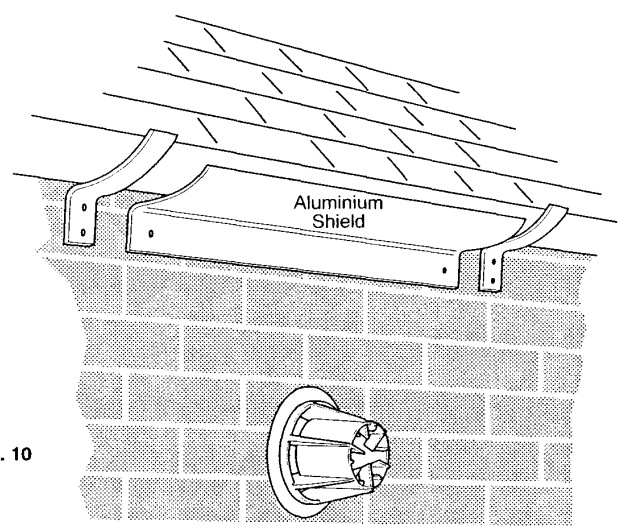

Fig. 10
3. If the terminal is fitted within 1 metre (39in) of a plastic gutter, within 500mm (19½ in) of a painted eave or a painted gutter, an aluminium shield of at least 1 metre (39in) long should be fitted to the underside of the gutter or painted surface. An air space of 5mm (3/16 in) should be left between shield and gutter (Fig. 10).